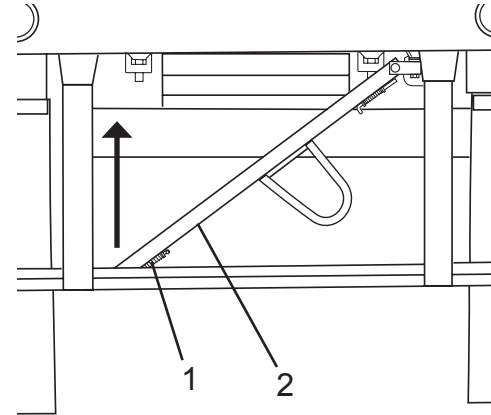

Figure 47
1. Standing behind the tailgate, release the pin (Figure 47, Item 1) and swing the prop (Figure 47, Item 2) toward the truck frame.